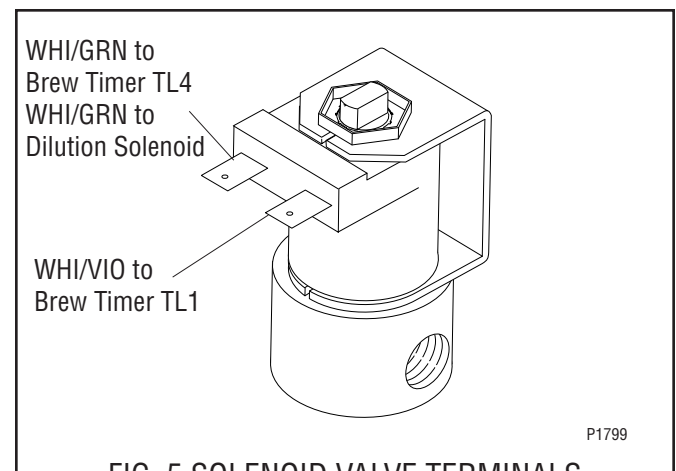

FIG. 5 SOLENOID VALVE TERMINALS
7. Refer to the Fig. 5 when reconnecting the wires.